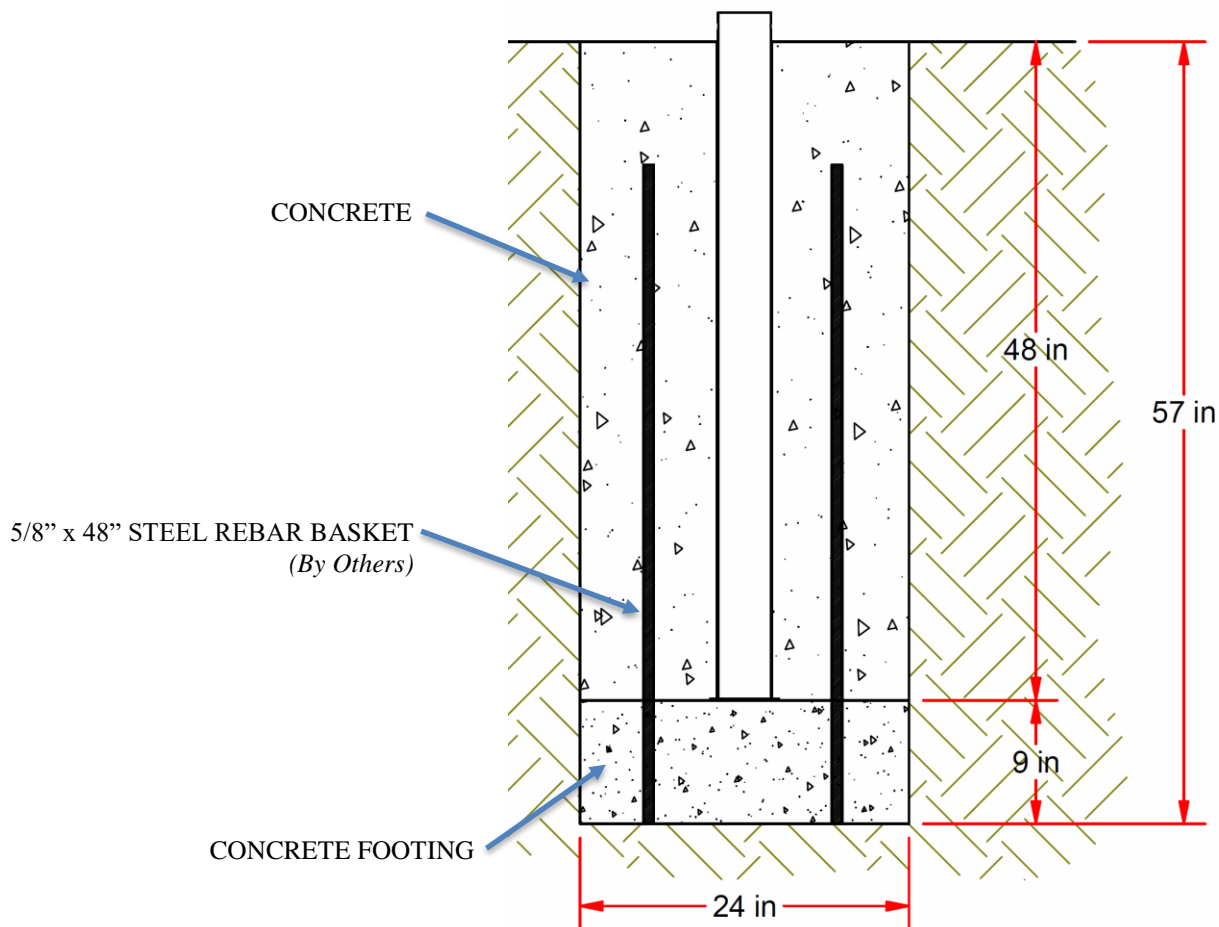

FIGURE: 5
1. Place the ground sleeve into the footing and fully support it in a plumb position (figure 5).